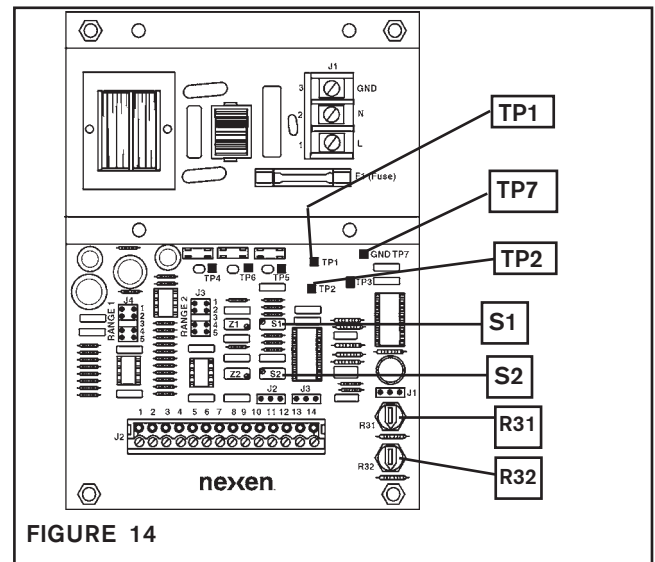

FIGURE 14
2. Connect a voltmeter to **TP7 (COM)** and **TP1** (See Figure 14).
3. Rotate **S1** clockwise to ____ VDC, increasing the reading at **TP1** (Example: Maximum tension = 100 Lbs. with a 50 Lb. weight, adjust the output for 5.0VDC) (See Figure 14).